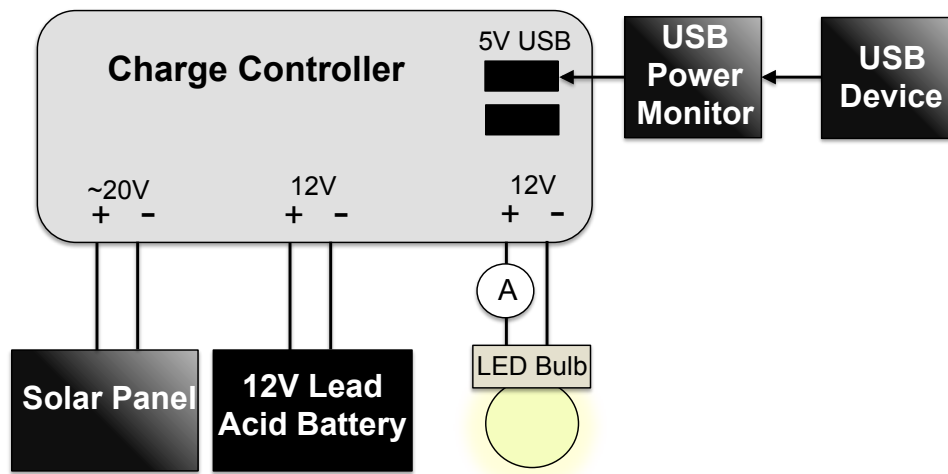

Figure 1: A schematic of the Solar Microgrid.
This week, you will create your own “Solar Microgrid”. The microgrid consists of the solar panel, a 12V lead acid battery, and a charge controller, as shown below in Figure 1. Solar panels obviously do not produce energy at night, so the 12V battery is used to store energy produced during the day. Directly connecting ~20V DC output of the solar panel to charge the 12V battery would damage it, so the charge controller is used to step down the 20V DC to 12V DC. Additionally, the charge controller contains two 5V USB outputs for charging and powering various consumer electronics.
1. Sketch the schematic shown in Figure 1 in your lab notebook.
- b) Locate the handheld DMM with mini-grabber cables in the 10A socket. Connect one of the DMM cables to the wire in the charge controller. Connect the other DMM cable to the red light bulb wire, such that the DMM is **in series** with the LED bulb, as shown in Figure 1. Switch the DMM knob to the 10A current setting. **Caution: You must use the 10A setting, or you will burn out the DMM!**